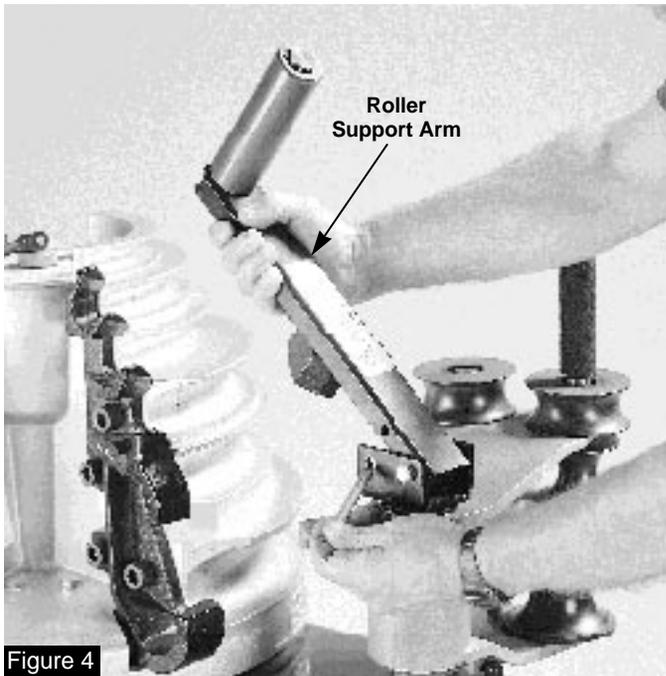

Figure 4
7. Lift the roller support arm to clear the nylon rollers and swing the arm (toward shoe) over the roller housing. Lower the arm into the support bracket and insert the ring pin. See Figure 4.